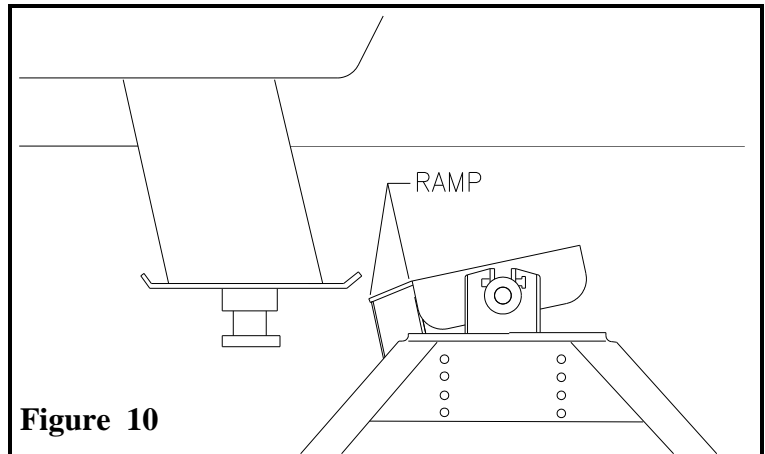

Figure 10
- 2) Lower the tail gate and back up to within 6” of the “ramp” area of the Hitch Plate (1). **(Figure 10)**
- 3) Raise or lower the trailer jacks so the bottom of the King Pin Box is aligned slightly above the bottom of the “ramp” area of the 5th Wheel Plate (1) **(Figure 10)**. This procedure will cause the front edge of the trailer King Pin Box to “ride up” the “ramp” and flatten or tilt the Hitch Plate (1) into a parallel position.